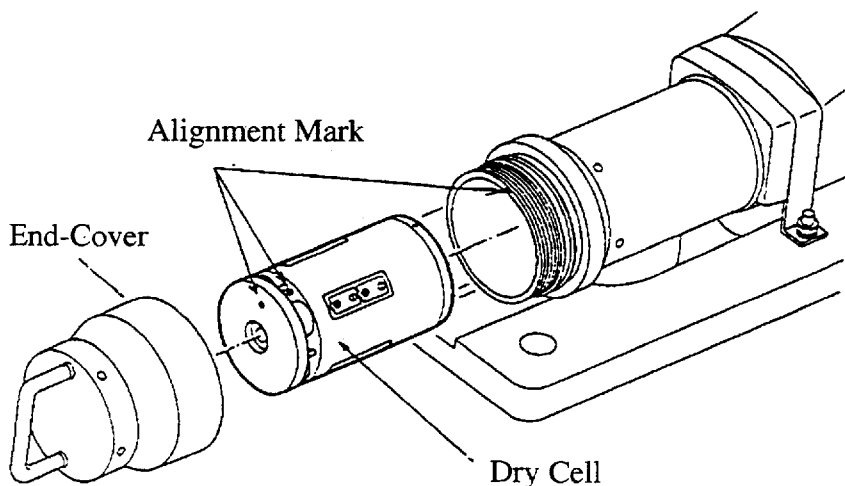

Fig. 3-25
4. Put the dry cell case into the transmitter, referring to the alignment marks for correct engagement. See Fig. 3-25.